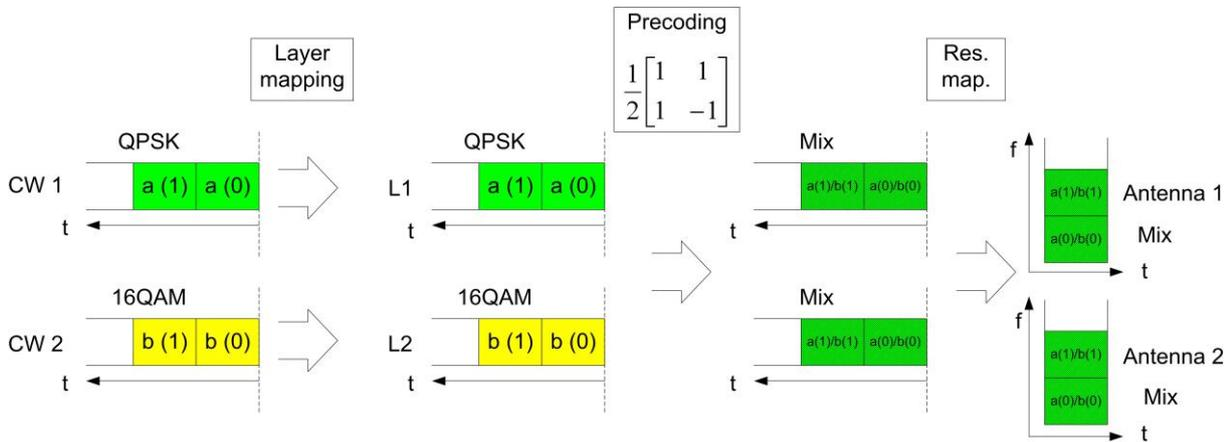

Figure 5: Pre-coding two CWs, two layers, index 1
Figure 5 shows two (differently) modulated code words, (1) QPSK and (2) 16QAM. The code words are mapped directly to the two layers. The pre-coding based on codebook index 1 distributes the mixed layers to the antennas, and the antennas transmit a mixed modulation. Two FSx units are required to demodulate the signal because the two layers are mixed by the pre-coding.